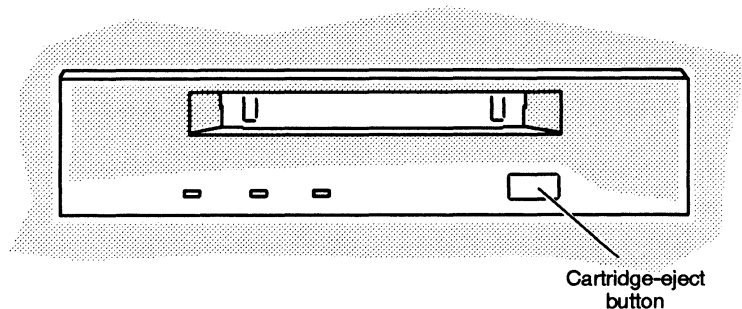

Figure 14 Cartridge tape eject button
1. While the drive's power is on, press the tape drive's cartridge-eject button located on the right side of the drive's front panel, as shown in Figure 14.